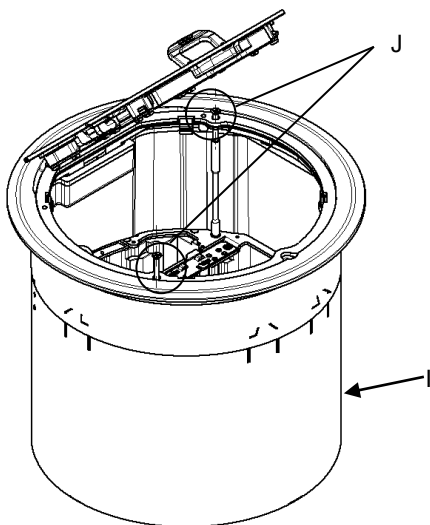

Fig. 5
2. Remove screws (J) and cover from can assembly (I). See Fig. 5.